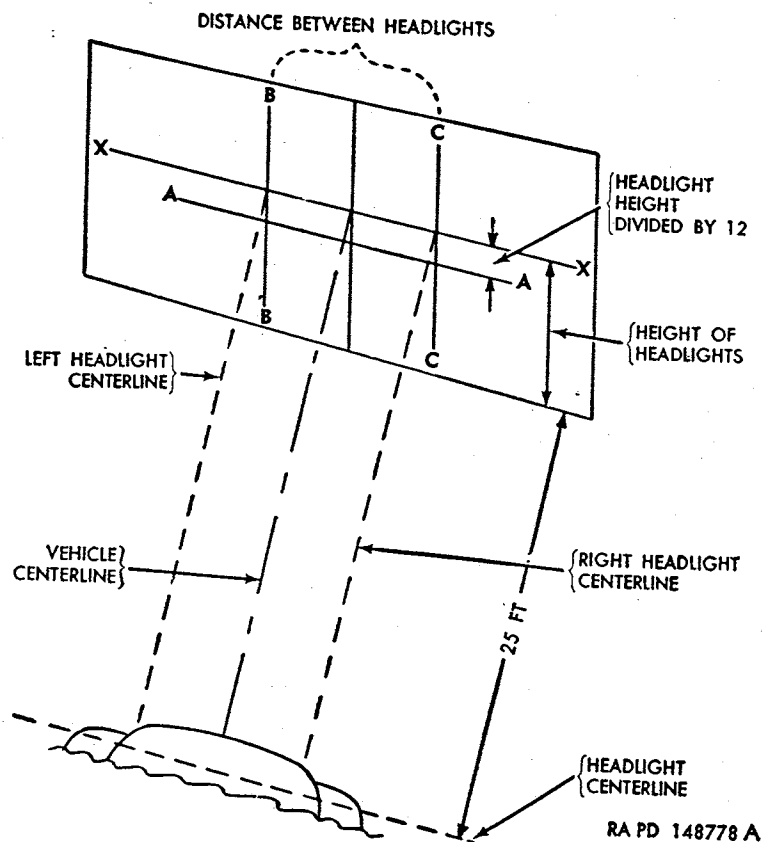

Figure 158. Headlight aiming chart.
- (1) Headlight beams must be accurately aimed. When aiming headlights, replace sealed-beam lamp unit (*b* below) if beam pattern is distorted. Beam distortion is usually due to a sprung or dented reflector, a condition sometimes caused by careless handling.
- (2) Conventional aiming equipment should be used when aiming headlights; however, headlight beam can be accurately adjusted as in (*a*) through (*f*) below.
- (a) Position unloaded vehicle on level floor with headlights 25 feet from a smooth vertical surface such as a wall or door, preferably of light color. Centerline of vehicle must form a right angle to the vertical surface (fig. 158).
- (c) Locate point at which projected centerline of vehicle intersects these lines. Measure distance between headlight centers; then divide this distance equally on both sides of center mark. Draw a vertical line (B-B and C-C) through each of these points (fig. 158).